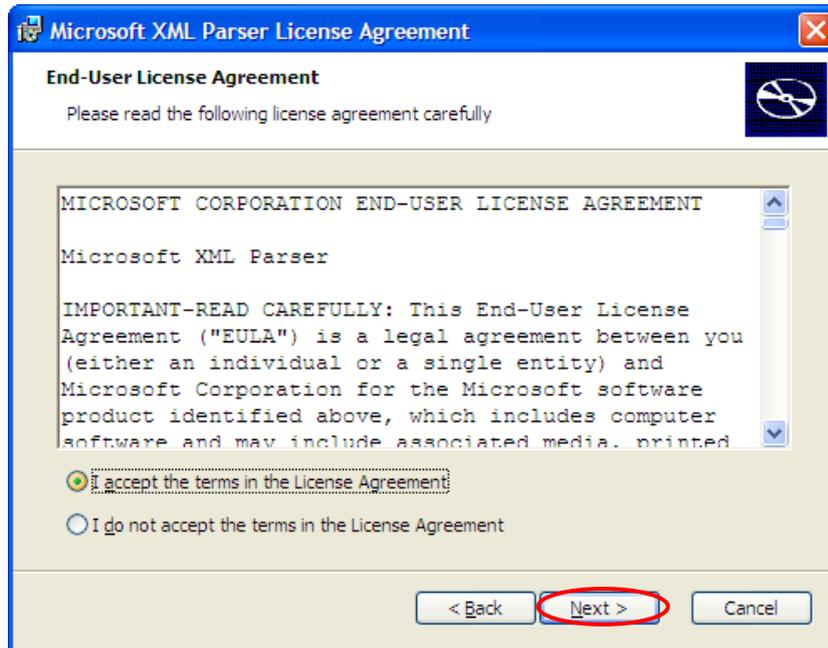

Figure 1-1-6 Installation Steps (6)
- Select “I accept the terms in the License Agreement” and click “Next” button, as shown in figure 1-1-6.